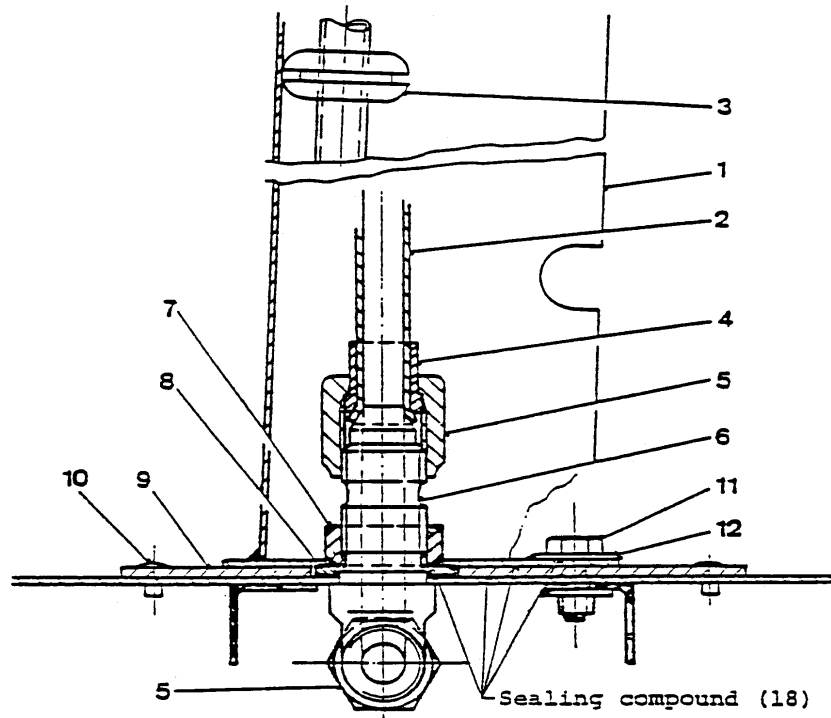

Fig. 3 Stand pipe lead-in and fairing attachment
2.3 Rework (Fig. 3 and 4)
- Enlarge the hole in the cabin ceiling skin to 0.57 in. dia. (Fig. 3).
- Install the reinforcing plate (9) as illustrated in Fig. 3: center the plate with the existing attachment screws (11), drill rivet holes and rivet the plate in position; apply sealing compound (18) to the contact surfaces prior to riveting.